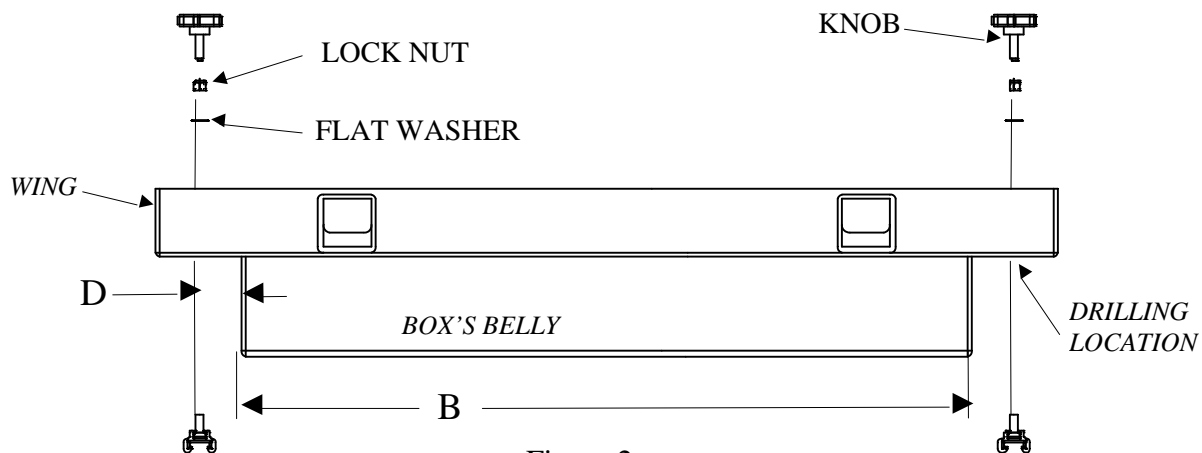

Figure 2
- 4) Take your toolbox and measure the width of the box's belly (Measurement B) (See Fig 2)